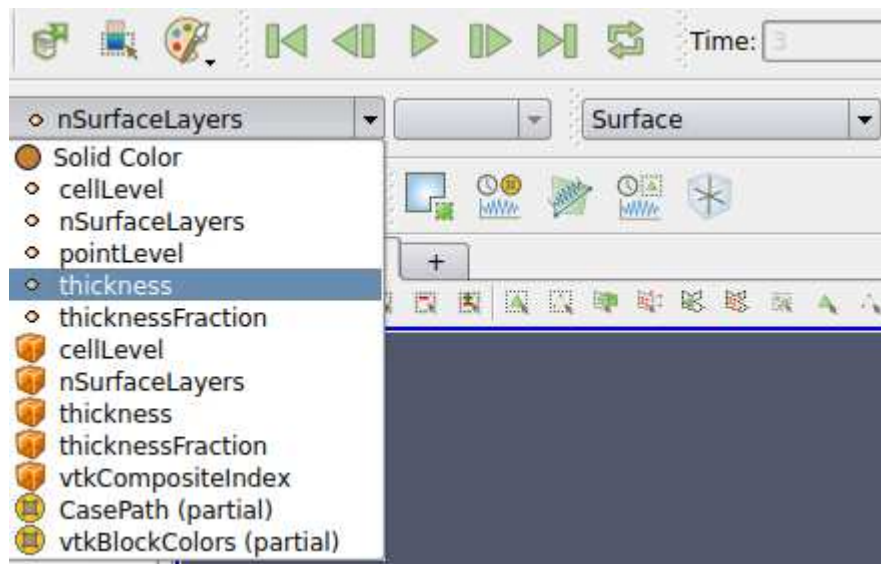

Figure 3.6: Active variables toolbar.
- 3) Select the “thickness” from “Active Variables Toolbar” (figure 3.6) and this should colour the surface of the Ahmed body with the thickness (the result is shown in table 3.1 and Appendix F).